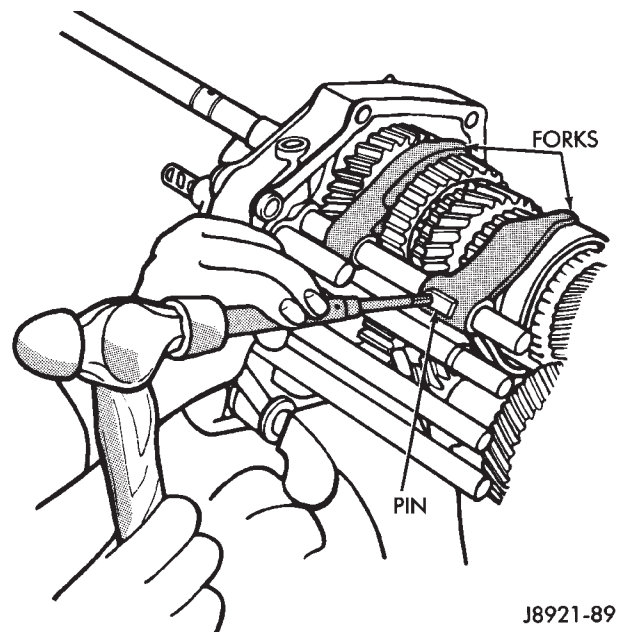

Fig. 82 Installing Shift Fork Pins
(18) Check interlock operation as follows: Move No. 1 shift rail rearward to first gear position. Interlock operation is OK if remaining shift rails did not move.
(19) Install new shift fork pins (Fig. 82).